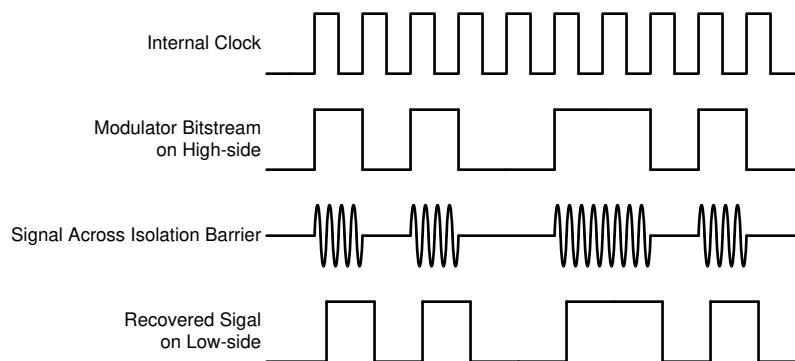

图 7-1. OOK-Based Modulation Scheme
The AMC1302-Q1 uses an on-off keying (OOK) modulation scheme, as shown in 图 7-1, to transmit the modulator output bitstream across the SiO_2 -based isolation barrier. The transmit driver (TX) shown in the *Functional Block Diagram* transmits an internally-generated, high-frequency carrier across the isolation barrier to represent a digital *one* and does not send a signal to represent a digital *zero*. The nominal frequency of the carrier used inside the AMC1302-Q1 is 480 MHz.